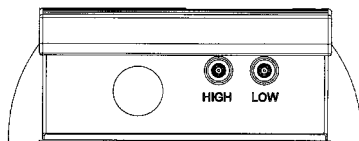

Figure 3
Two (2) 3/16" O.D. pressure fittings are supplied for pressure signal connection with a 1/4" push on tubing. Both positive (high) and negative (low) pressure ports are located on the bottom face side of the unit. For best results (shortest response time), 3/16" I.D. tubing is suggested for tube lengths up to 100 feet long, 1/4" I.D. for tube lengths up to 300 feet long, and 3/8" I.D. for tubing lengths up to 900 feet. The high and low ports are labeled next to each respective port (see Figure 3).